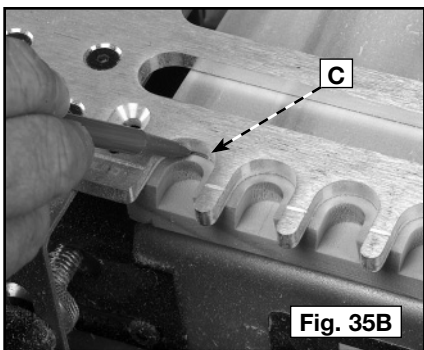

Fig. 35B
- Step 2** - Use a pencil to mark the location of the half-circle between the fingers of the templates (C) Fig. 35B.